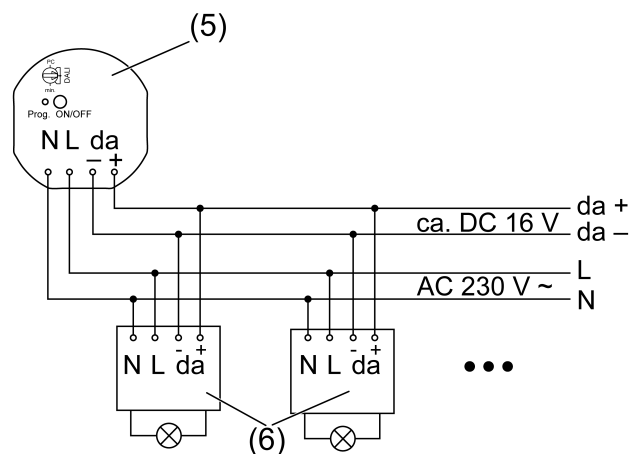

Figure 2: Connection example
- Connect control unit (5) and DALI ballasts (6) as shown in the connection example (Figure 2). At the same time, note the information given by the manufacturers of the ballasts.
- Insert the control unit into the appliance box in such a way that the **Prog** button (2) and status-LED (3) are visible.